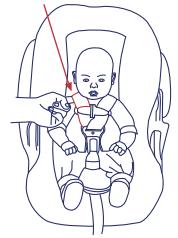

Fig. 38-1
- 14.6.2) From the front of the Safety Seat, pull outward on the Harness Adjuster Strap to tighten the Harness Straps. Make sure that both Harness Straps are snug on your child's shoulders. A snug strap should not allow any slack. It lies in a relatively straight line without sagging. It does not press on the child's flesh or push the child's body into an unnatural position. Please see figure 38-1.
- 14.7.2) From the front of the Safety Seat, pull outward on the Harness Adjuster Strap to tighten the Harness Straps. Make sure that both Harness Straps are flat and tight on your child's shoulders. The harness is properly tightened if you are not able to insert more than one finger between the harness strap and your child's shoulder. Please see figure 38-1.